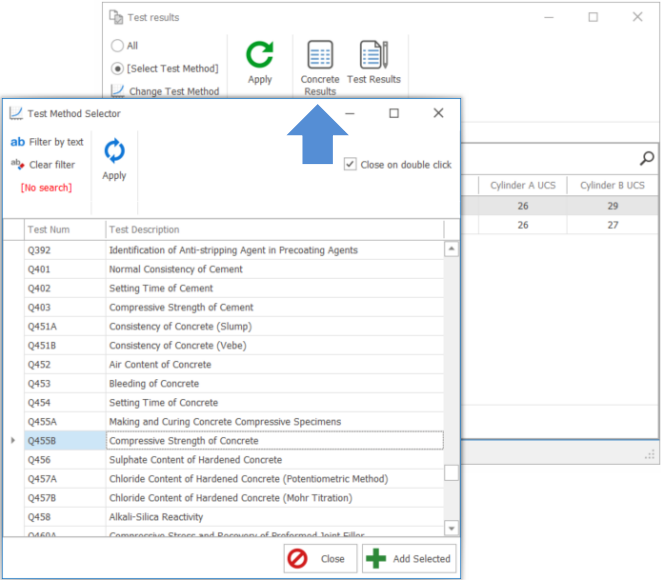

Figure 105 Selecting Test Method for Concrete Results
- 6. To view concrete test results showing analyses as defined by Queensland Main Roads Specifications, click on *Select Test Method* from the Test Results screen ribbon menu and select the test method from this list provided in the *Test Method Selector* – see Figure 105.